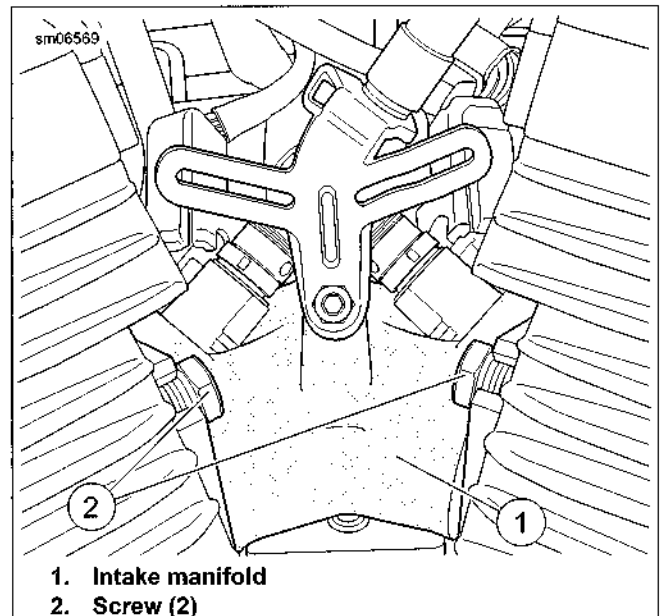

Figure 4-18. Intake Manifold Mounting Screws: Left Side
12. See Figure 4-18. Loosen two screws (2) securing intake manifold to heads on left side of vehicle, but do not remove screws.
1. See Figure 4-18. Make sure two mounting screws (2) are screwed into heads two or three turns.